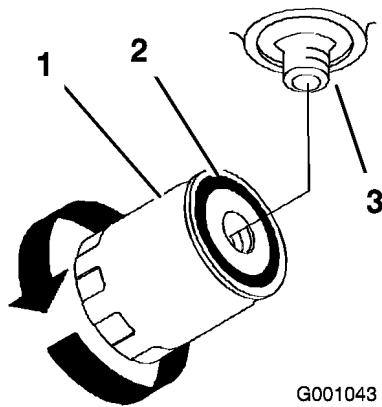

Figure 54
4. Apply a thin coat hydro fluid to the rubber gasket on the replacement filter (Figure 54).
6. Fill the hydraulic tank with hydraulic fluid until the fluid overflows the filter and then turn the oil filter clockwise until the rubber gasket contacts the filter adapter, then tighten the filter an additional 1/2 turn (Figure 54).